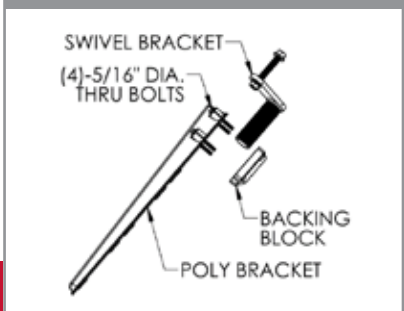

FIGURE 10
- Do not completely tighten one corner of the backing block before moving to the next corner. Tighten each nut 30%-50% and move to the next nut following the pattern shown in **Figure 10**.